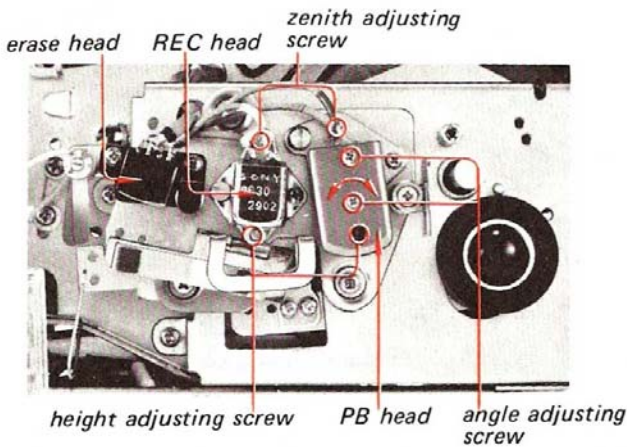

Fig. 3-2-5. Adjusting parts location for the items 2 and 3
- Step 1. Make rough adjustment for items 3 and 4.
- Step 2. Align the upper edges of the REC and PB head cores and upper edge of the tape by turning the height and zenith adjusting screws. (See Fig. 3-2-5.)
- Step 3. Loosen the angle adjusting screws to position the p.b. head for a maximum VTVM reading. (See Fig. 3-2-5)